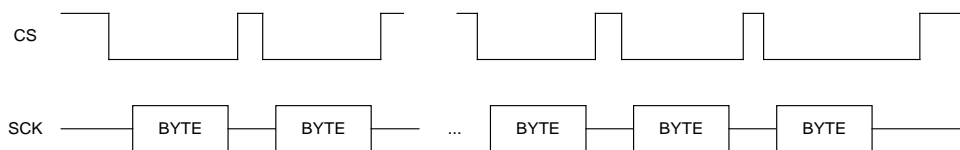

Figure 6.1-3. CS de-assert mode
- A configurable option to control CS de-assertion between byte transfers is available. The SPI master controller supports a special transmission format called CS de-assert mode. Figure 6.1-3 illustrates the waveform in this transmission format.